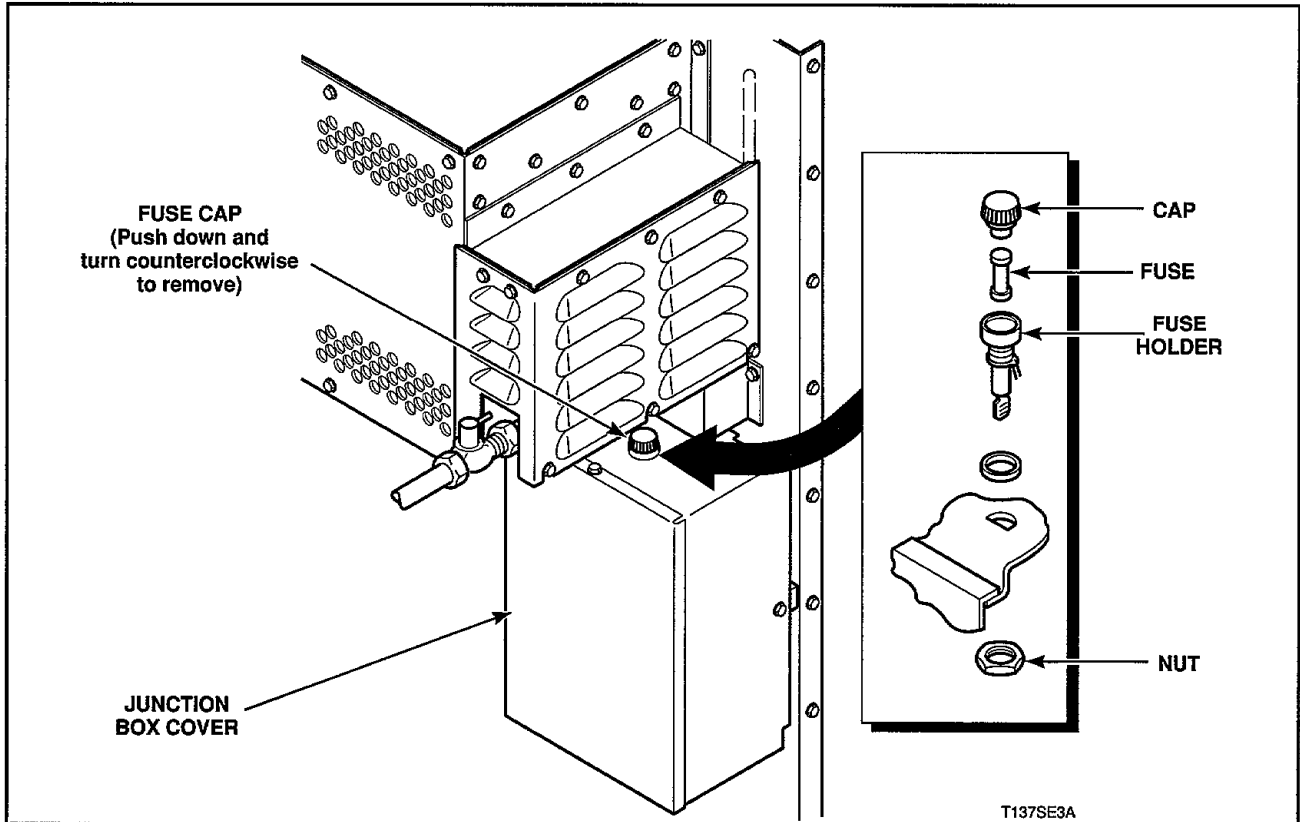

Figure 8
- Turn fuse cap counterclockwise to remove fuse, *Figure 8*
- Remove junction box cover, *Figure 8*.